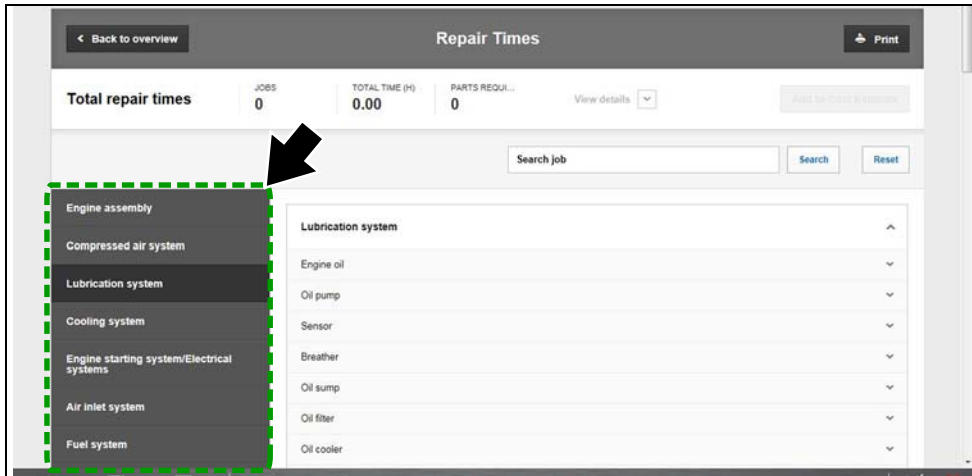

Figure 9-20
1. Choose the applicable system (Figure 9-20) from the menu to display job options.